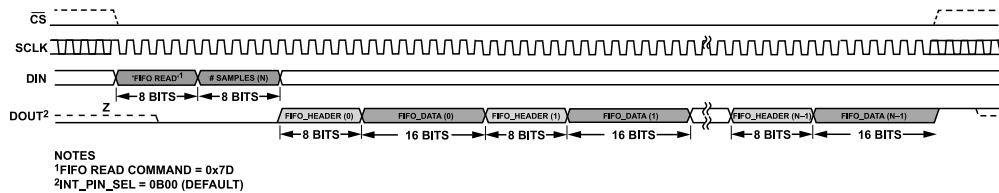
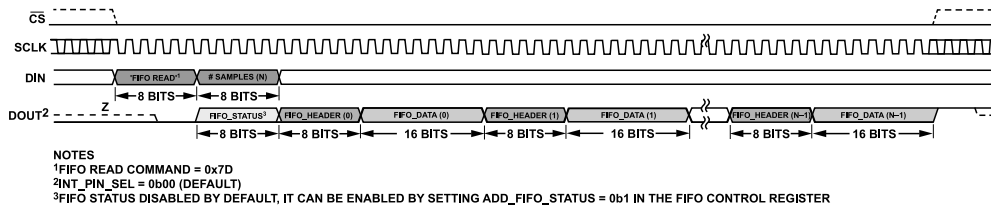

Figure 104. FIFO Readback Default (FIFO\_STATUS Append Off and FIFO\_HEADER Append On)
Figure 105. FIFO Readback (FIFO\_STATUS Append On and FIFO\_HEADER Append On)
By default, the FIFO\_HEADER is enabled and the FIFO\_STATUS append is disabled. Therefore, the FIFO readback diagram looks like Figure 104. If the FIFO\_STATUS append is enabled, the FIFO readback diagram looks like Figure 105.
The FIFO\_STATUS register content (see Table 71) can be enabled to be added and read before the FIFO\_DATA and during the # samples (N) byte (see Figure 105), by setting ADD\_FIFO\_STATUS bit to 1 in the FIFO\_CONTROL register (see Table 69). This way, the user can detect an error earlier on and abort the FIFO\_DATA readback.